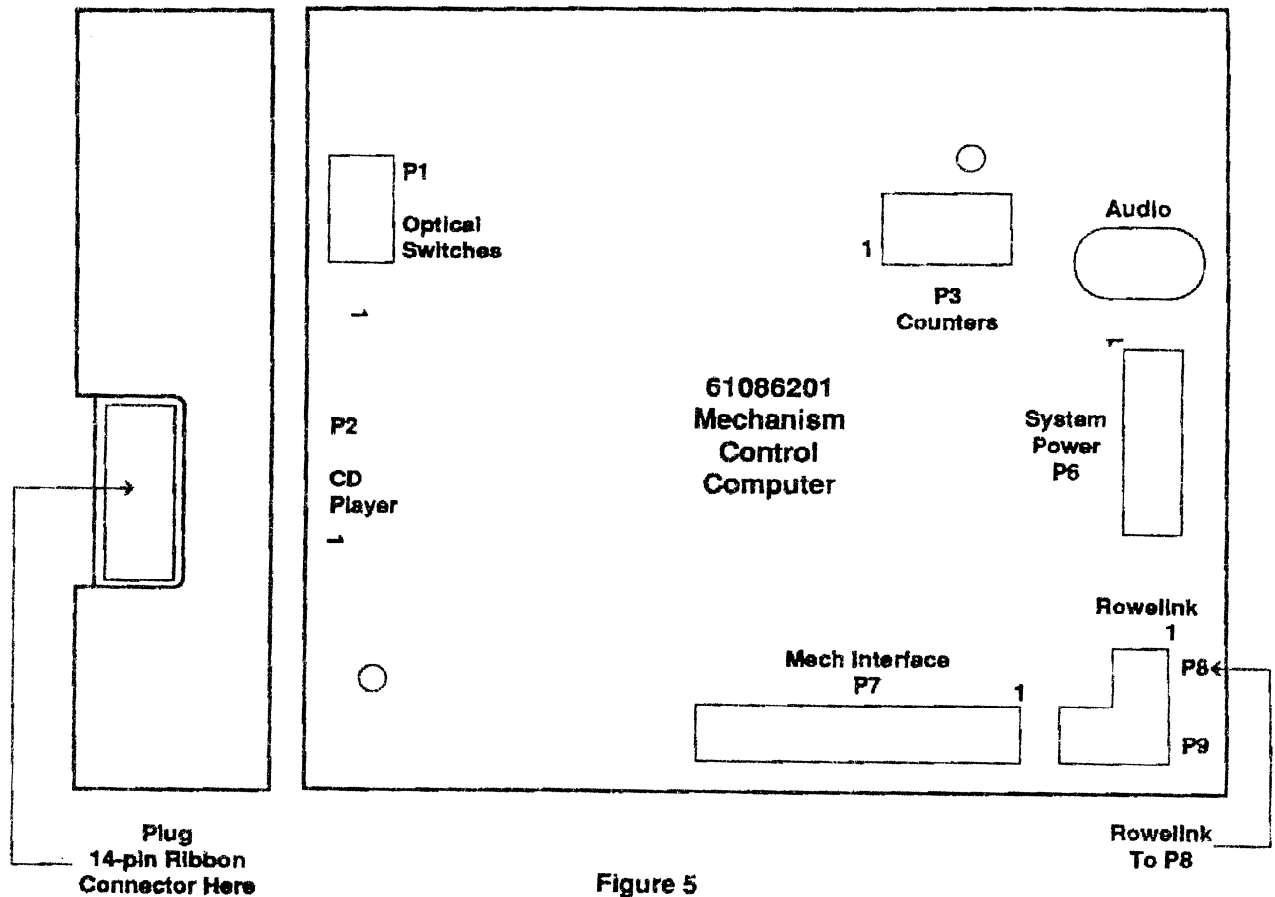

Figure 5
23. For locations of harness connectors to the new Mech Control assembly See Figure 5.